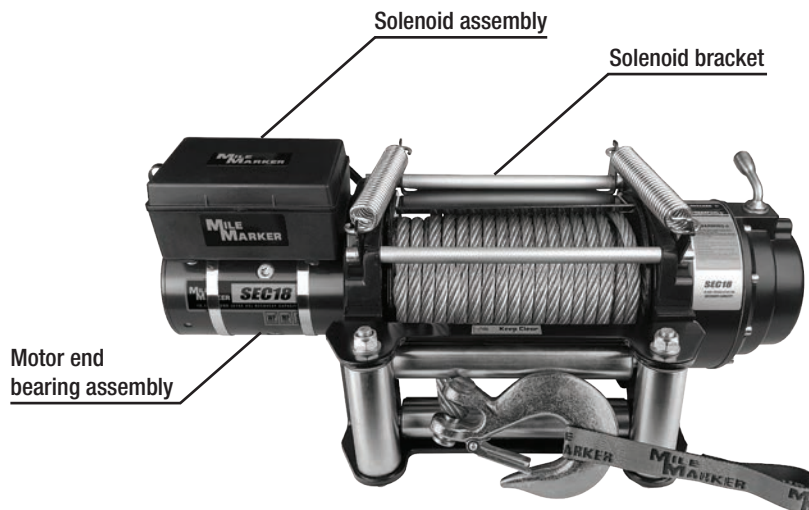

Fig. 1
2. Make sure winch is on flat surface, and attach the supplied solenoid bracket by removing the two screws from the motor end bearing assembly (Fig. 1).